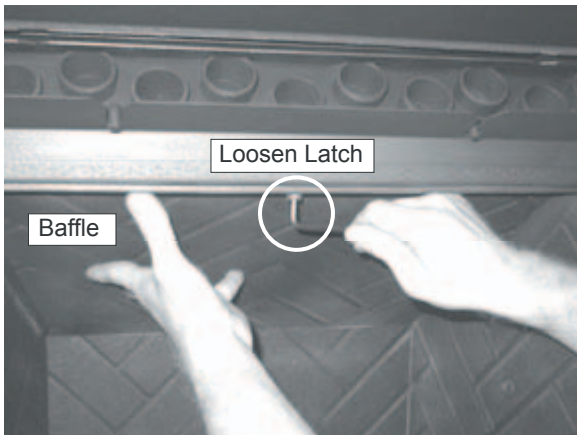

Figure 31.1
- d. Place your hand on the baffle for support as the cast is heavy. Using a 5/32 Allen wrench loosen the latch (shoulder bolt) by turning counterclockwise, lower the baffle and pull forward. **Figure 31.1.**